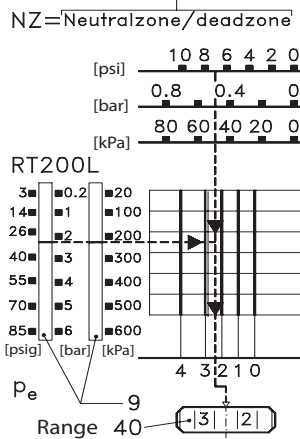

Fig. 2
As shown on the main scale (9), figs. 2, 4, 5 and 7.
As shown on the NZ-scale, figs. 2, 4, 5, 6 and 7.